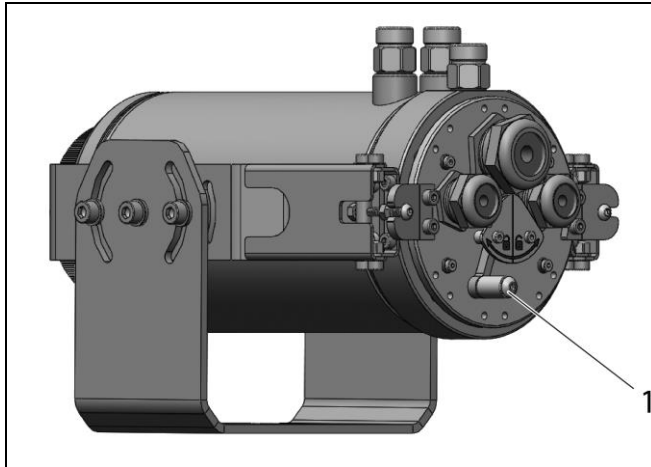

Figure 34: Back side of the Cooling Jacket with locking lever
6. Move the locking lever to the left (symbol: ) , so that the chassis is fitted close to the inner surface of the housing (**Figure 34**).
4. Move the locking lever to the left (symbol: ) , so that the chassis is fitted close to the inner surface of the housing (**Figure 34**)